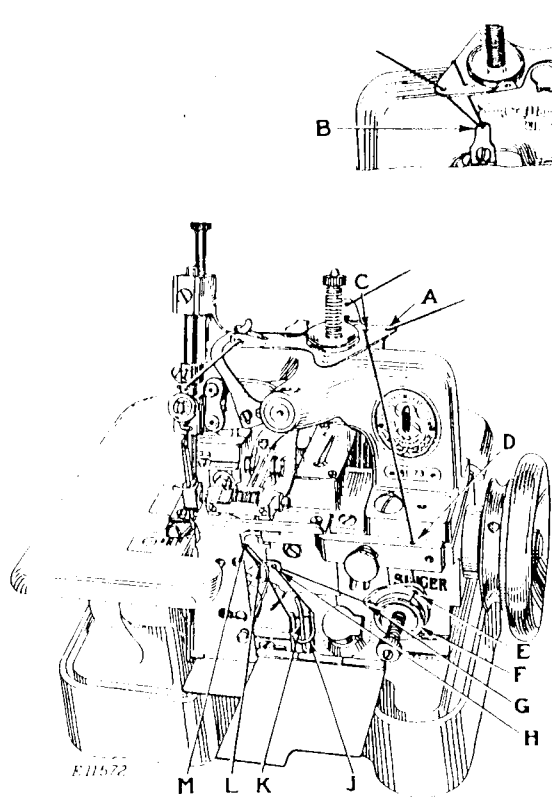

FIG. 11. THREADING THE RIGHT HAND LOOPER
Pass the thread from the unwinder, down through the hole (A, Fig. 11) in the tension bracket, from back to front through the
pull-off (B, Fig. 11) at the back of the machine, up through the hole (C, Fig. 11), down through the hole (D), through the hole (E), under between the tension discs (F), through the hole (G), from back to front through the take-up (H), down under the loop (J) of the staple then, with the forefinger, slide the thread up and over the prong (K), so that the thread rests in back of the prong, up and from back to front through the hole (L) in the heel of the right hand looper, and from front to back through the eye (M) of the right hand looper.
**Note:** The pull-off (B, Fig. 11) is only threaded when making the three-thread tight stitch.